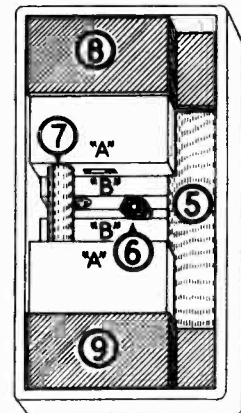

FIG. 2
**Model 206GB:** Place the two "B" batteries in the bottom of the battery compartment. Insert the long rectangular corrugated board piece (5) alongside the batteries and force the small corrugated board roll (6) in between the ends of the "B" batteries. Place the "A" batteries on top of the "B" batteries and force the long roll of corrugated board (7) lengthwise between them. The sockets of both "A" and "B" batteries face each other at the center. The offset pieces (8) and (9) are placed on top of each "A" battery as shown in Figure 2. Plug the four prong plug on the battery cable in the socket on the bottom of the cabinet. The extension from this socket must be plugged into the socket on the rear of the chassis.